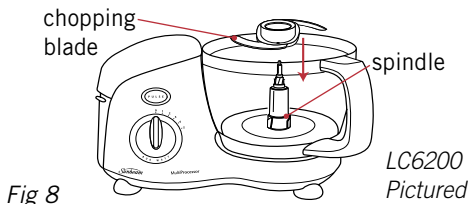

Fig 8
3. Fit the processing blade over the spindle and press firmly into place, see Figure 8.